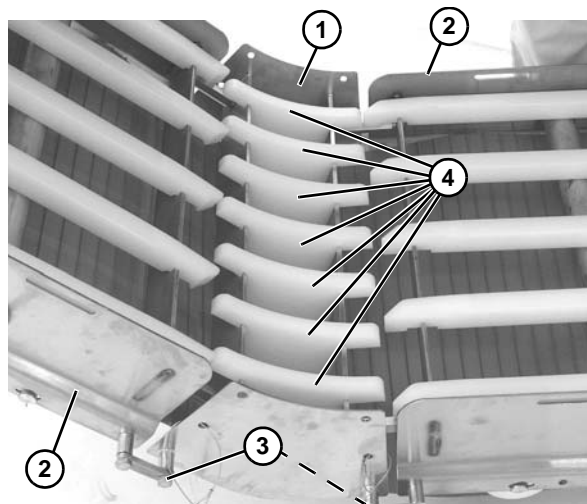

Figure 14
2. Attach lower knuckle (Figure 14, item 1) to frame (Figure 14, item 2) with hex rods and bolts (Figure 14, item 3).
3. Install wear strips (Figure 14, item 4).